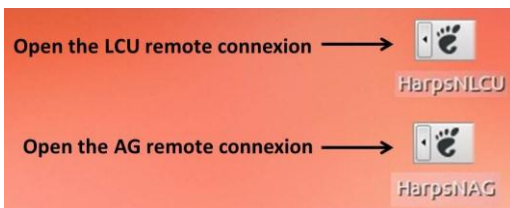

Figure 5 - WSOPER workstation desktop
- a) Click on the HarpsNLCU icon (Figure 5) , or open a shell from any linux machine and type:
- c) Click on the HarpsNAG icon (Figure 5) , or open a shell from any linux machine and type: